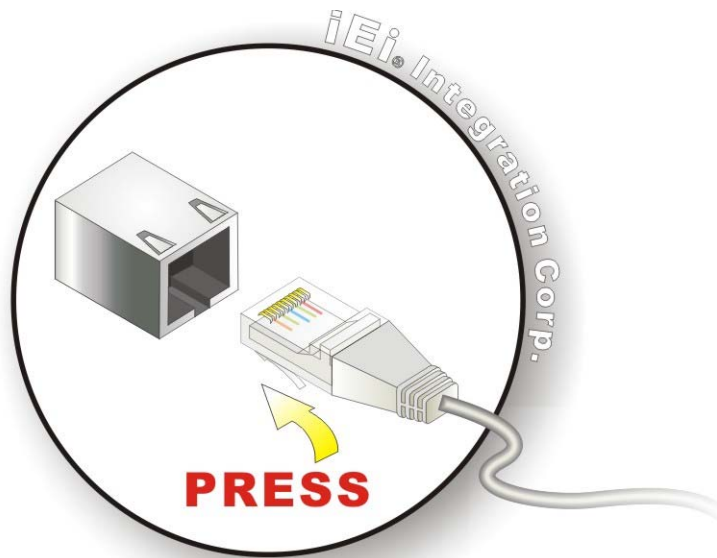

Figure 4-16: LAN Connection
- Step 2:** **Align the connectors.** Align the RJ-45 connector on the LAN cable with one of the RJ-45 connectors on the WSB-H610. See **Figure 4-16**.